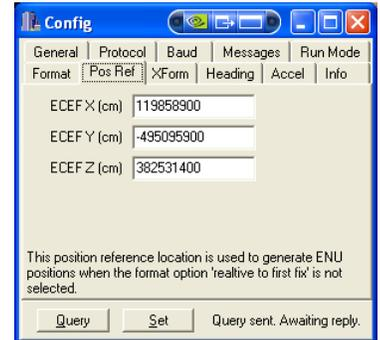

Figure 24. Pos Ref Tab
6.8 Pos Ref - The "Pos Ref" tab is used to set a location other than the *first fix* is needed to calculate a "Home" location for the unit (Figure 24). This tab may be manually populated or allowed to be populated by the GPS unit.